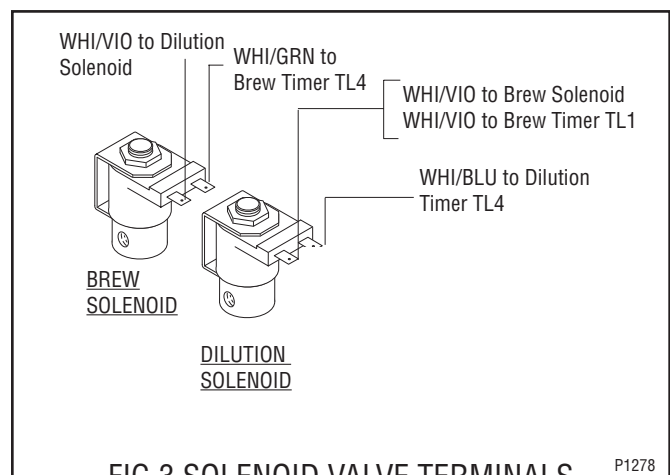

FIG.3 SOLENOID VALVE TERMINALS
10. Refer to the Fig.3 when reconnecting the wires